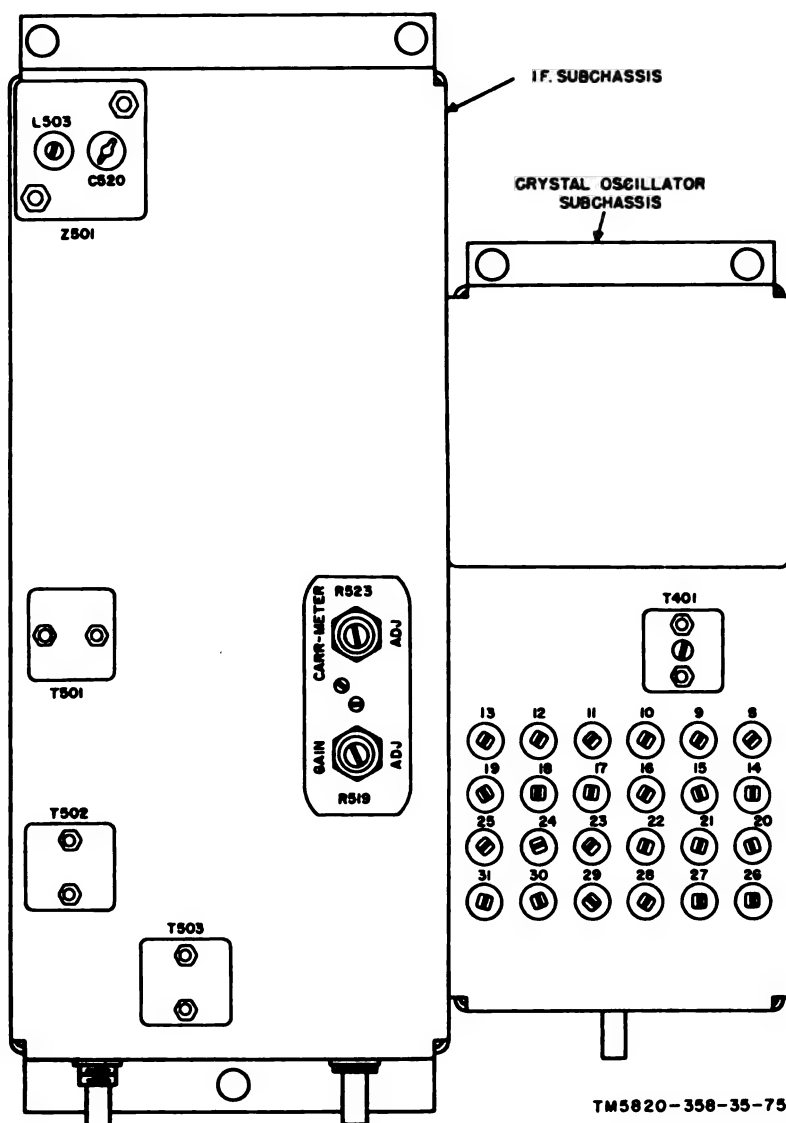

Figure 71. Crystal-oscillator and if. subchassis alignment points.
- (1) Check CR101 (para 53a).
- (2) Adjust one receiver according to the instructions given in *b* above.
- (3) Perform the procedures in *b* above for the second receiver. Do not change the settings of the AN/URM-25(*) in any way.
74. Crystal-Oscillator Subchassis Trimmer Alignment (fig. 71)
82. Crystal Filter Neutralizing (fig. 71)